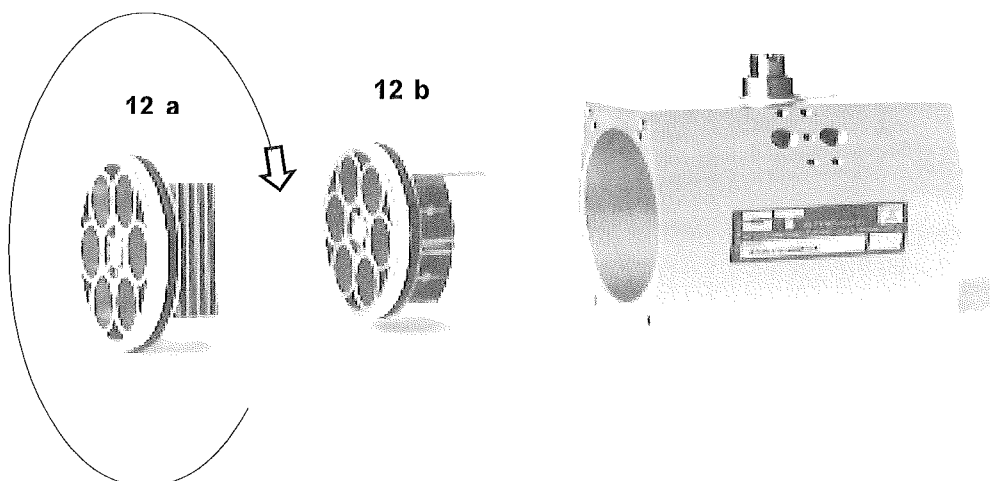

FIGURE 12
- 1 - Remove end caps, pistons and the pinion as described in the disassembly procedure. (Section 5.0). Prior to reassembly rotate both pistons 180° along the long axis of the piston. (See figure 12). Upon rotation of pistons, reassembly can be accomplished by following the reassembly instruction in Section 6.0, Parts 6.1 to 6.12 of this manual.
Rotate the piston shown in Fig. 12 a as in position shown in Fig. 12 b, to obtain the FCCW configuration (**Mounting C**)